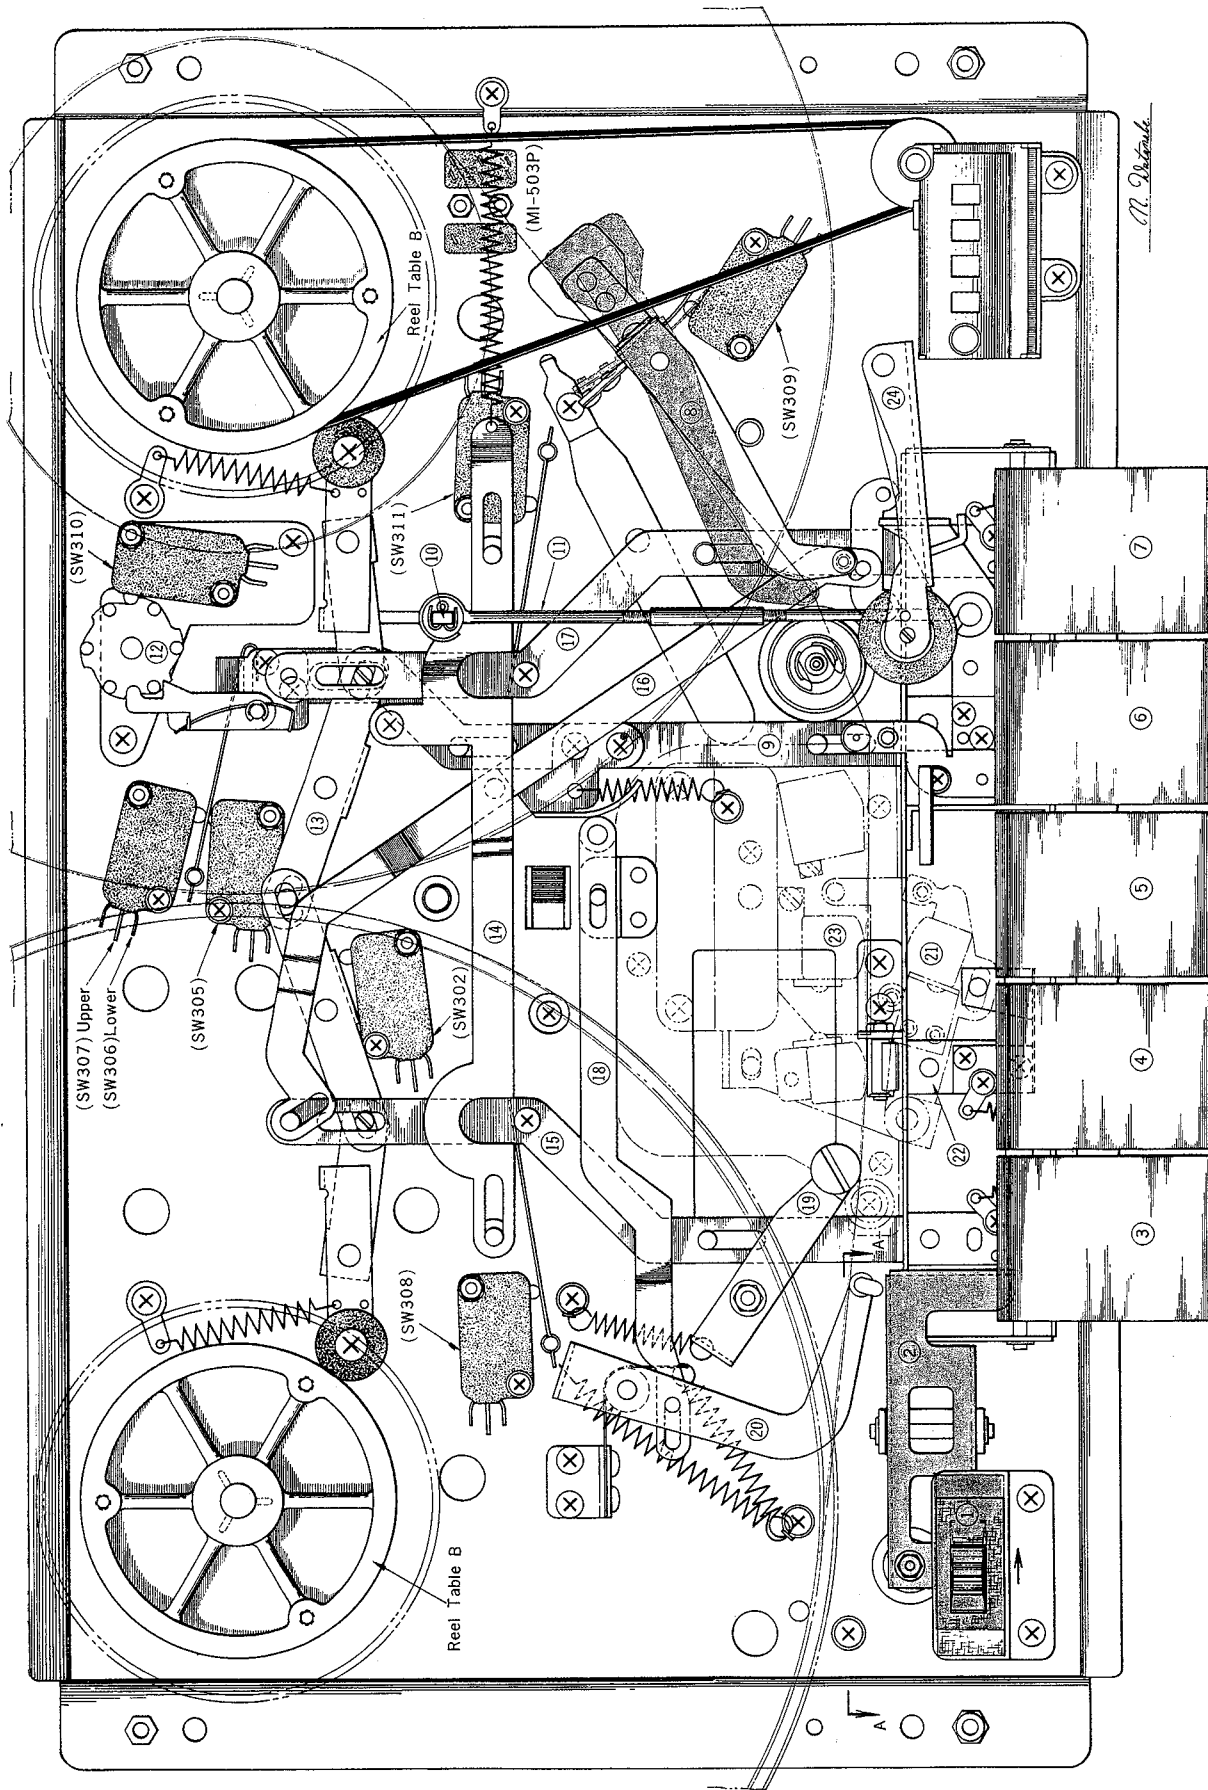

Fig. 1
- 1) Switch in the power by sliding the Knob ① in the direction of arrow as shown in Fig. 1; the capstan now starts turning.